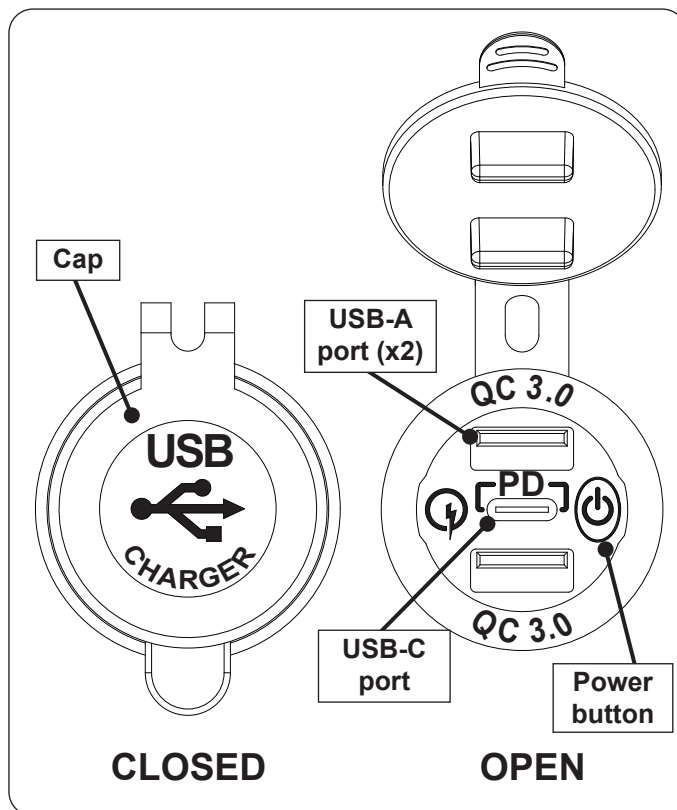

Fig. 50-1 USB outlet overview
Fyrestarter (H) models are equipped with a USB outlet for charging electronic devices. To use, see Fig. 50-1 and follow the steps below.
1. Locate the control panel on the side of the unit (refer to the IDENTIFICATION PARTS LIST if needed), and identify the USB outlet (see Fig. 50-1).